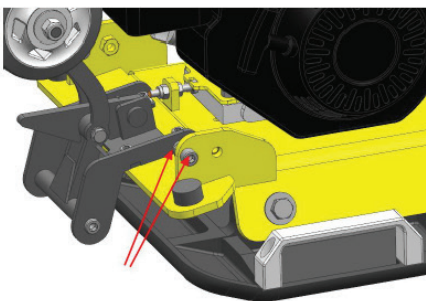

Fig. 11
8.3 Remove the socket heads and nuts from the back of the compactor. (Fig. 11)